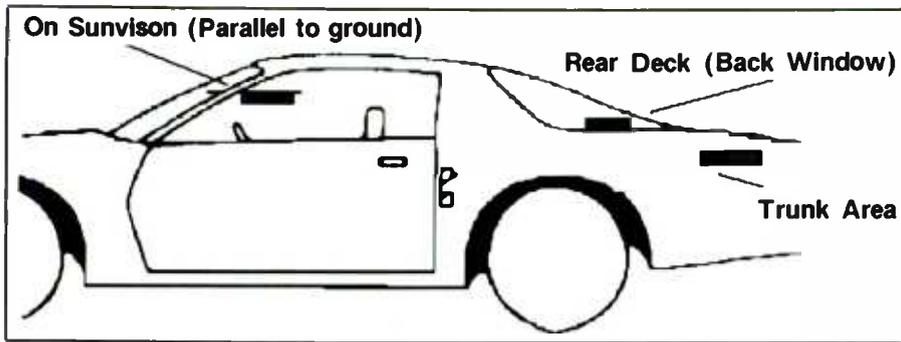

Fig. 4. Suggested locations for mounting sensor assembly where magnetic anomalies will have least effect on readings obtained.
Shown in Fig. 4 are a variety of possible locations inside a car where the distortion of the earth's magnetic field is minimal or does not exist. Try any or all of these to determine the best location for the sensor assembly in your particular vehicle: (1) the rear deck, just under the window; (2) inside the trunk; and (3) on the sun visor. If you select the sun-visor location, make certain that the sensor is positioned so that it is parallel with the ground.